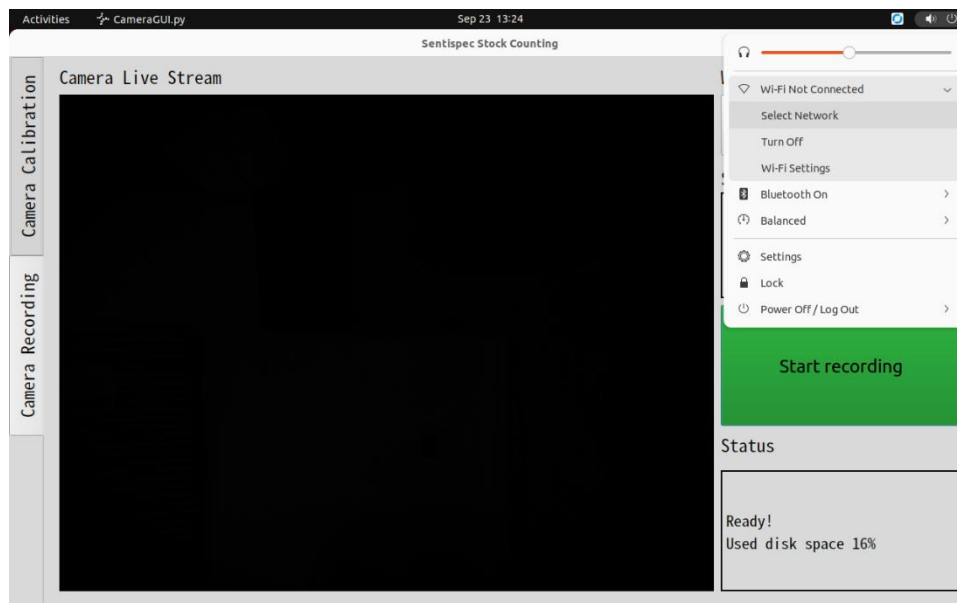

FIGURE 2-13 - CONNECT TO WI-FI
1. Push the icon in the top right corner of the screen, see Figure 2-13 - Connect to Wi-Fi, then press "Select Network"